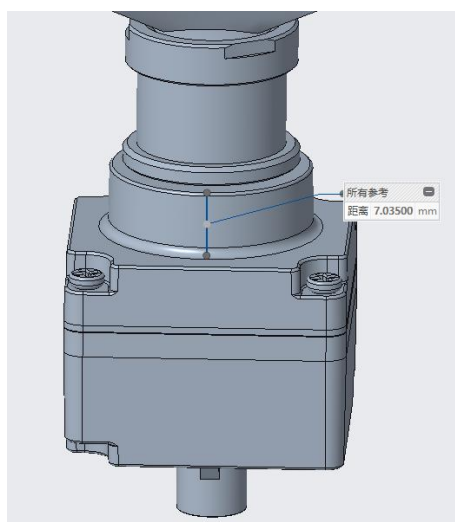

Figure 4
- AA lenses have different flange rear focal heights for different AA lenses. The specific protrusion height of the lens base should refer to 3D data, as shown in Figure 4. The height (7.035mm) is uncertain and needs to be determined based on the position of the AA lens flange.